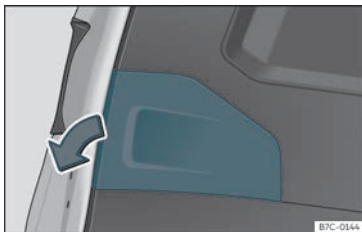

Fig. 49 Rear lid open: remove the cover.
- Remove the rear lid cover in the direction indicated >>> **Fig. 49**.